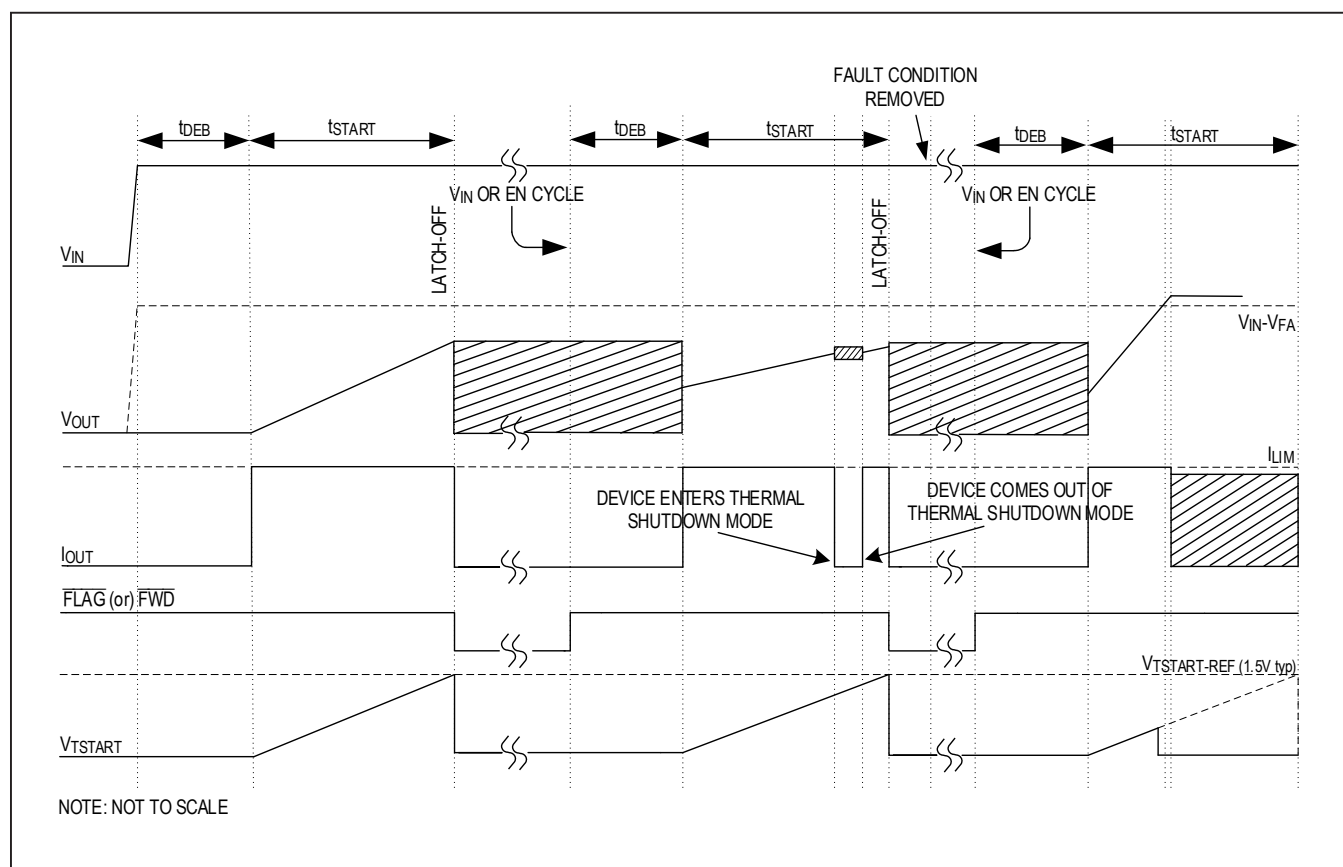

Figure 8. Startup Fault Timing Diagram in Latchoff Current-Limit Mode
In latchoff current-limit mode during startup, the device operates in continuous current-limit mode until  $t_{TSTART}$ . The timer  $t_{TSTART}$  resets if the output voltage  $V_{OUT}$  reaches  $(V_{IN} - V_{FA})$  within  $t_{TSTART}$  and then the normal operation continues. If the overcurrent condition is present for longer than startup blanking time ( $t_{TSTART}$ ), the output NFET Q2 is turned off and latched, the timer  $t_{TSTART}$  resets, and the  $\overline{FLAG}$  (or  $\overline{FWD}$ ) pin asserts. To reset the device, either toggle the enable control signal (EN) or cycle the input voltage. Figure 8 depicts a typical startup behavior in latchoff current-limit mode.